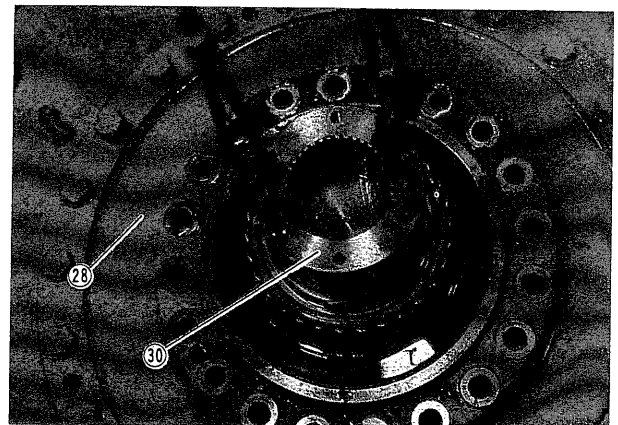

Fig. 96
- (4) Assemble boss assembly (30) in axle shaft (28). (SV91T, SV91D & SV91DP) (Fig. 96)